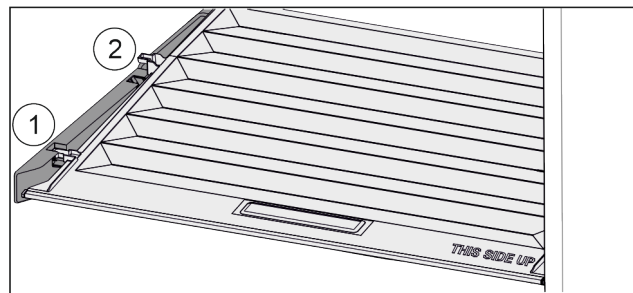

Fig. 104
- ▶ Pull the lid up at the front to the opening in the retaining parts Fig. 104 (1).
- ▶ Lift from the back and pull it up and out Fig. 104 (2).